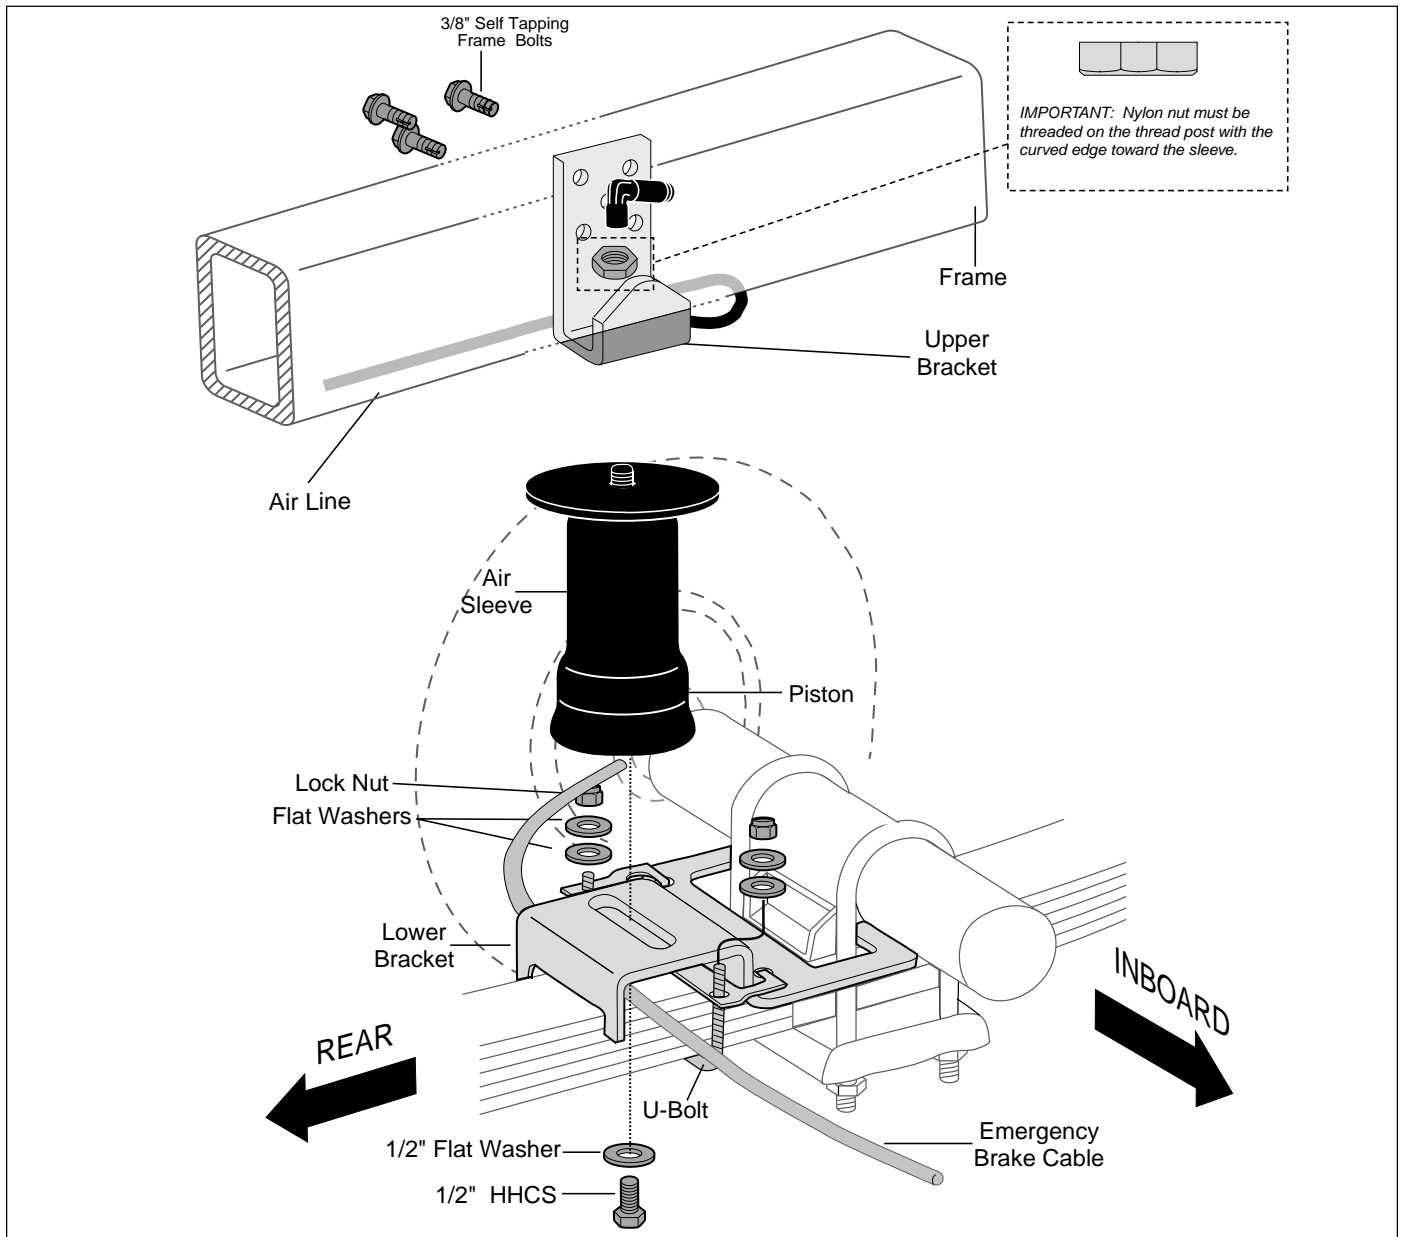
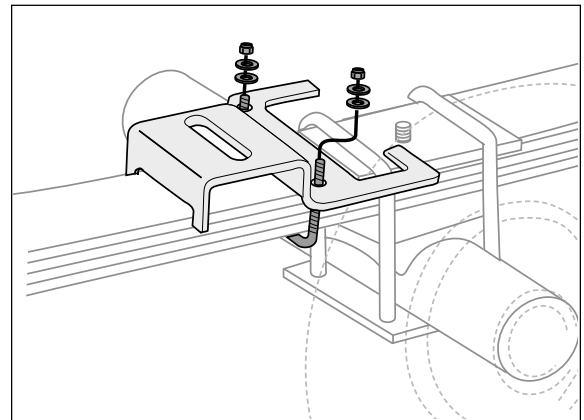

Figure 1
Figure 7
2. Set the J-bracket over the fitting and thread post. Position the elbow towards the front or rear of vehicle depending on which direction will allow easier access for the air line. Thread the nylon nut onto the thread post (Figures 1 and 2).
- c. Loosely attach the lower bracket to the bottom of the sleeve using 1/2" HHCS bolt and 1/2" flat washer (Figure 1). Set the assembly on the leaf spring *behind* the axle.
4. *For 4WD models: The lower bracket will set over the U-bolts (Figure 7). The adapter bracket is not required on the 4WD models. Loosely attach the lower bracket to the bottom of the sleeve using 1/2" HHCS bolt and 1/2" flat washer (Figure 1). Set the assembly on the leaf spring behind the axle. Secure to the leaf springs using the provided U-bolts, flat washers and lock nuts. Torque to 16 ft-lbs.*
- b. Attach the upper bracket using the self-tapping frame bolts and tighten to 15 ft-lbs (Figure 1). Do not over tighten.